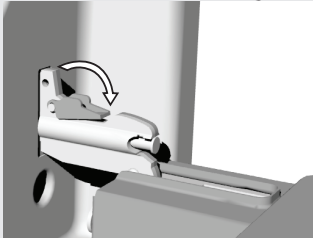

figure 2
- If the appliance is fitted with the GentleClose system, flip the door latches back to a 90° angle (Figure 2).